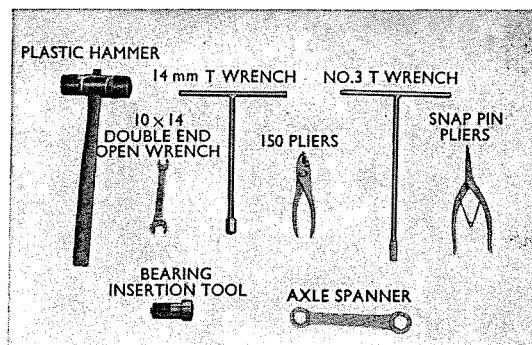

Fig. 6.45 Tools required for greasing bearings
- (1) Tools required for greasing bearings. (Refer to Fig. 6.45)
- (2) Dismount front and rear wheels, and remove the bearings.
- (3) Remove old grease and wash bearings with gasoline.